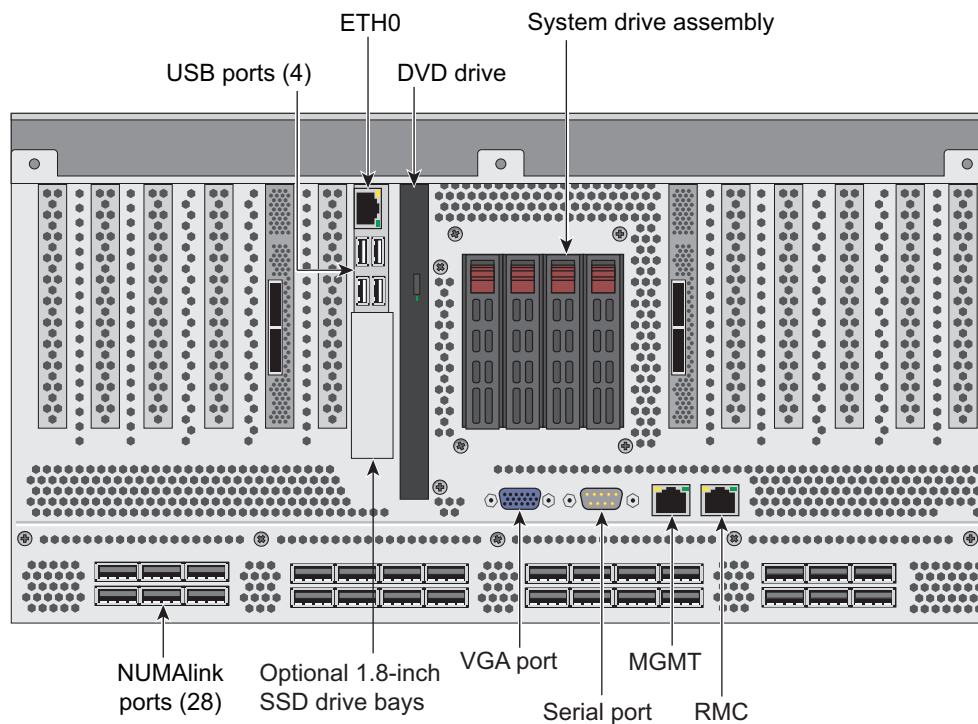

Figure 3-5 SGI UV 300 Chassis Front Components (Base Chassis With Drives)
- **Individual UV Chassis.** This 5U-high enclosure contains four power supplies, one four-processor compute/memory board, BaseIO and other optional riser enabled drives and boards for the SGI UV 300. Figure 3-5 on page 41 shows the SGI UV 300 base chassis front components. Note that an expansion chassis will not have the drive options installed.